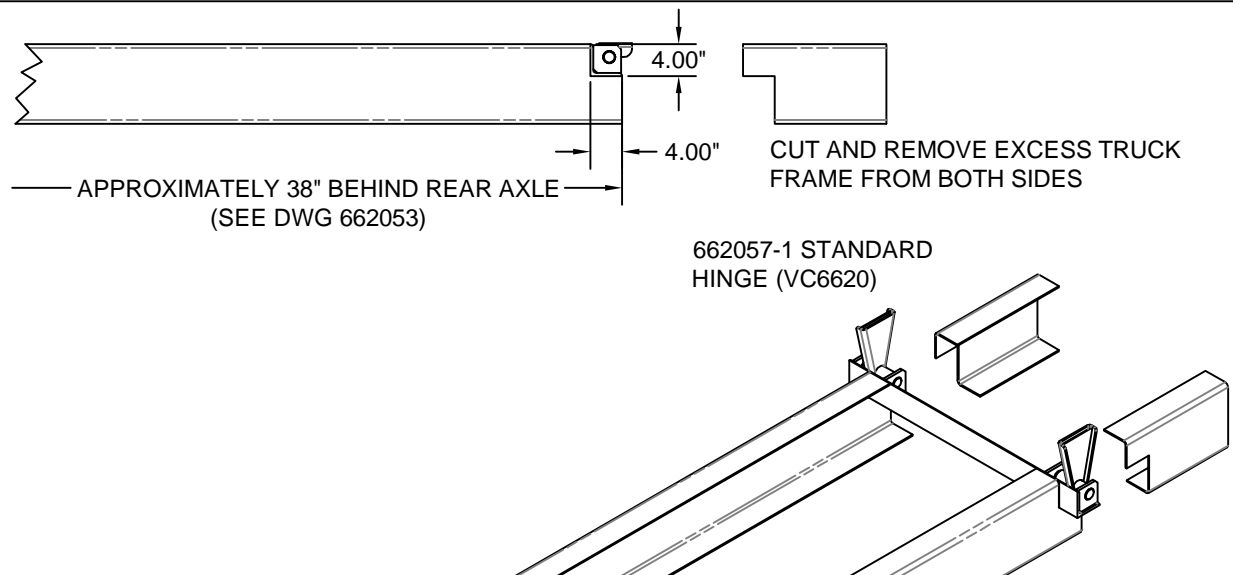

Figure 2 - Frame Modification and Rear Hinge Attachment
- Cut a 90° slot in each side of the frame as shown in Figure 2 below.
With the body aligned with the truck frame, push the hinge rockers outward as far as possible. Ensure that the longitudinal rails are sitting flat on the rockers, weld the body longitudinals to rockers (DWG 662086 Figure 2). See installation DWG 628861 for more information regarding the mounting of the rear hinge rockers to the body.